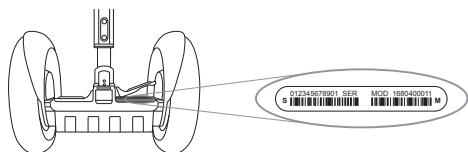

Figure 1: Location of Segway PT Serial Number
2. Locate the serial number on the left side of the label. The serial number is a 12-digit number beginning with "1" (see **Figure 1**).